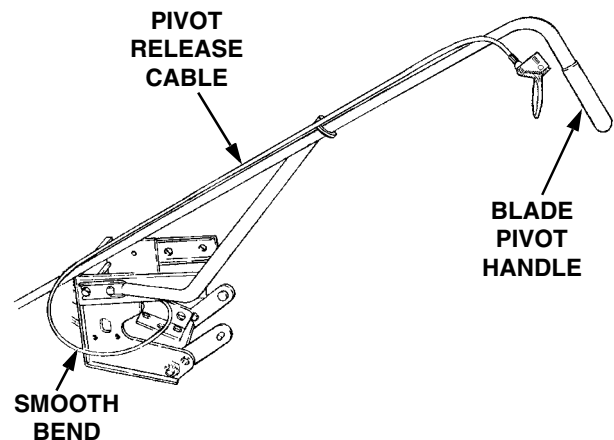

Figure 6
Route the cable as shown in Figure 6. Make certain the cable has a smooth, even bend and will not be kinked or pinched.
3. Route the pivot release cable along the upper surface of the blade pivot handle to the top of the handle (See Figure 6).